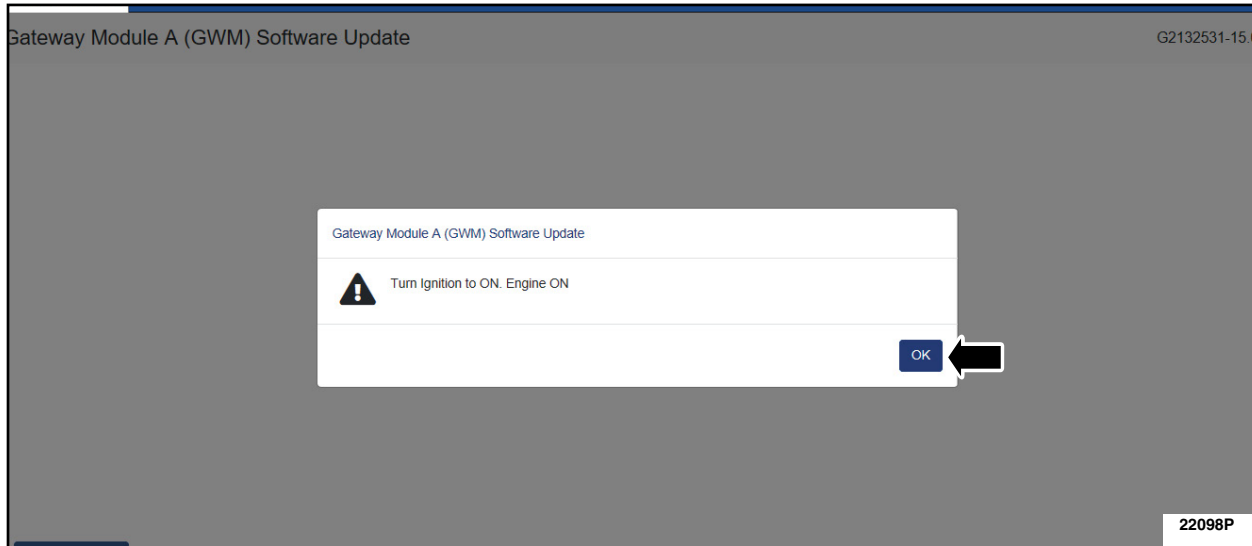

FIGURE 13
14. Cycle the ignition to the ignition on engine on position and click the OK icon. See Figure 13.